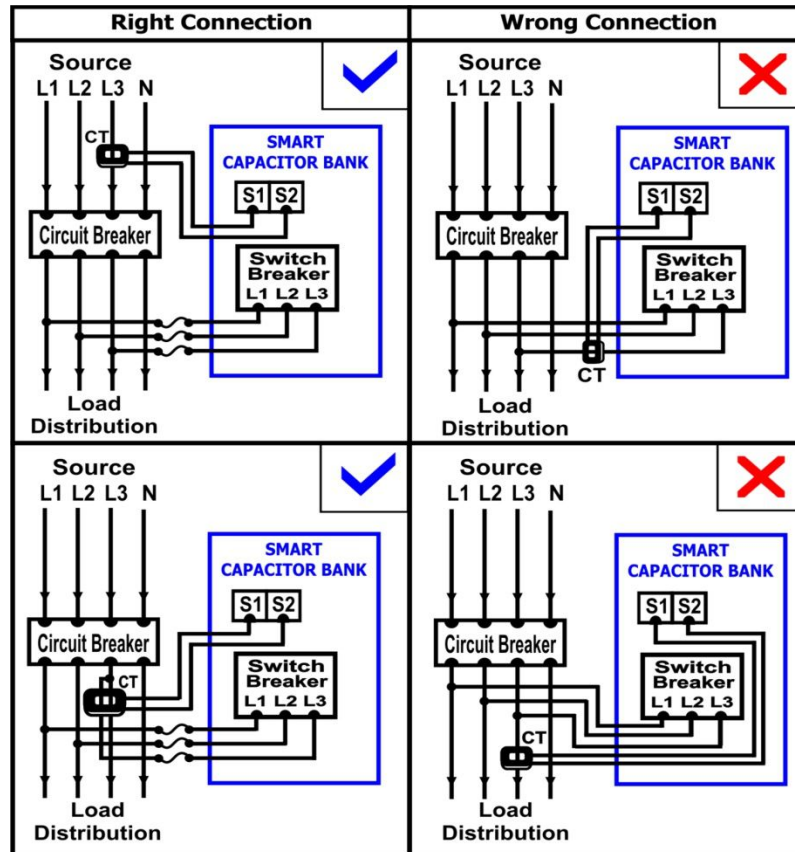

Figure-1
1. Remove Sub Panel covers exposing internal wiring and breakers. (Check Figure-1)